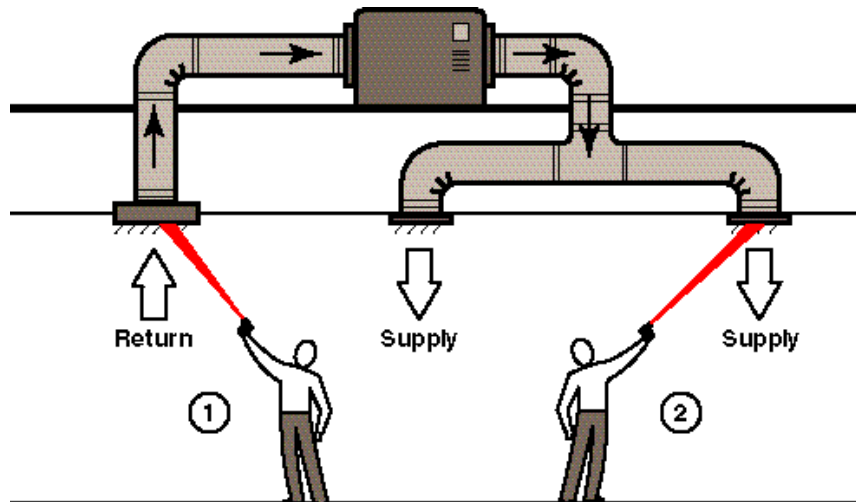

Figure 2: Checking for Return and Supply Temperature Differences with Noncontact Infrared Thermometers
If an HVAC system is not cooling or heating properly, a technician can first check the return and supply registers to see if the temperature difference is correct for the installed HVAC system (see ① and ② in Figure 2).